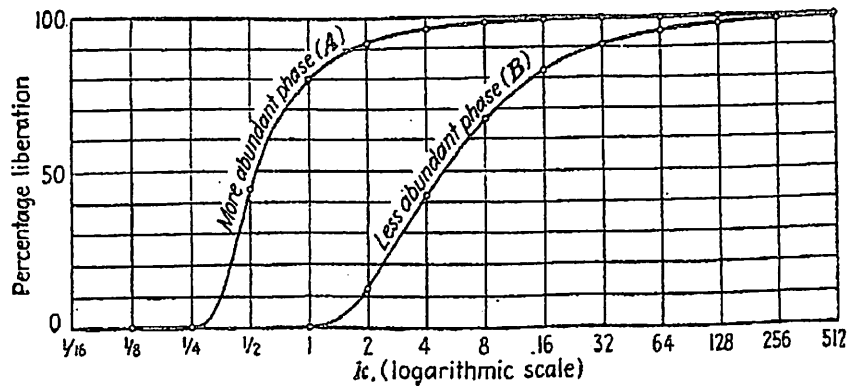

Figure 1.0 Percentage liberation of phases A & B ($A > B$)
- (b) Figure 1.0 shows the abundances of minerals A and B plotted on a linear – log scale of percentage liberation versus k at uniform particle size. This figure was obtained for a value of $n = 25$.
- i. Discuss the information depicted by Figure 1.0.